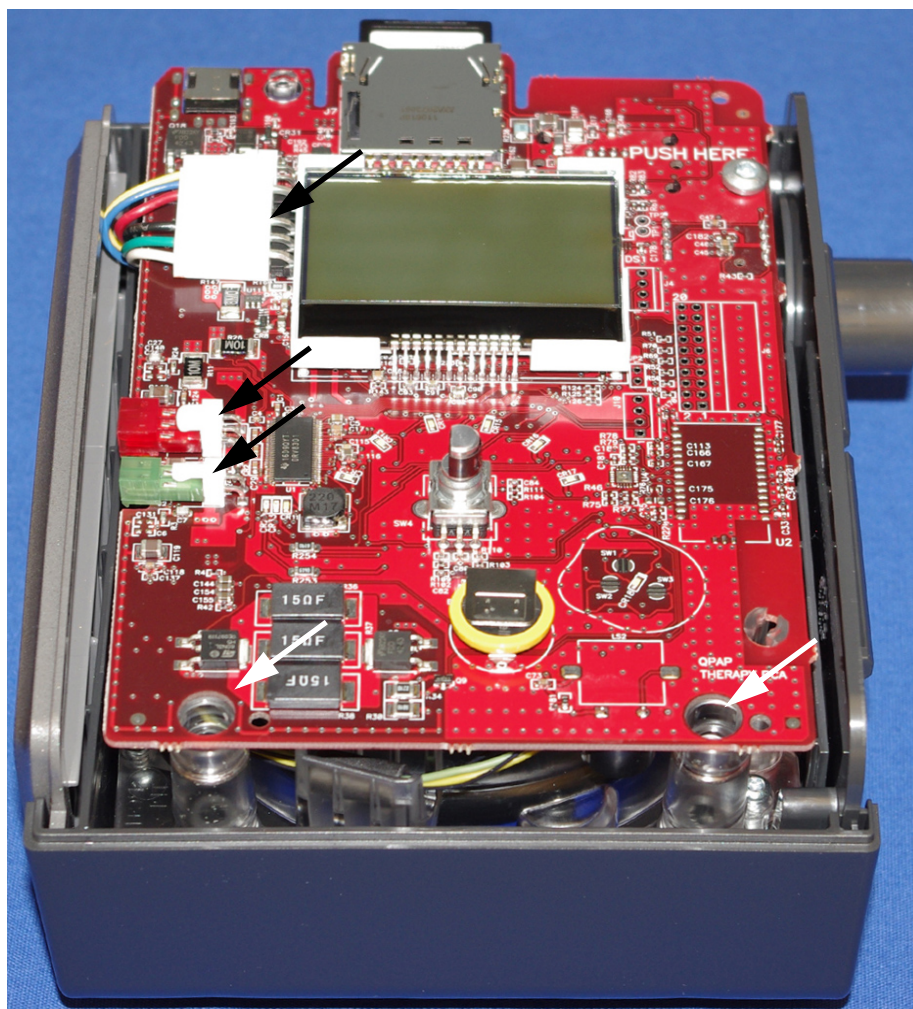

FIGURE 6-10: MAIN PCA
1. Remove the UI Knob. Refer to Replacing the User Interface (UI) Knob.
3. Disconnect the wiring harnesses from the Main PCA. The wiring harnesses are indicated by black arrows in Figure 6-10.
5. Squeeze the standoffs, indicated by white arrows in Figure 6-10, to release the Main PCA from its mounting location in the Bottom Enclosure.